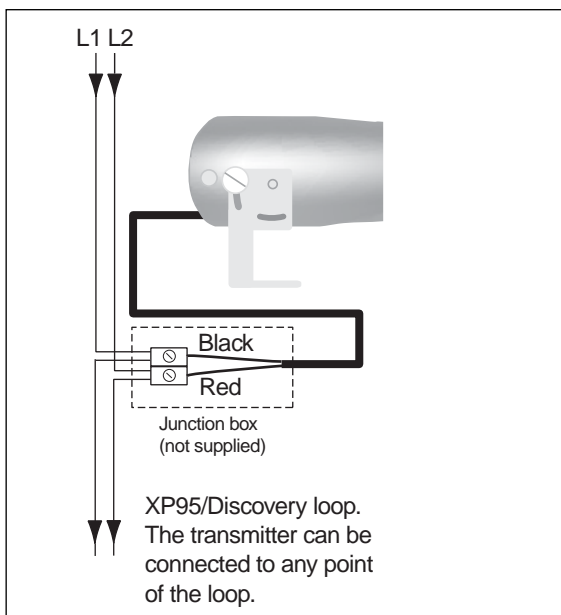

Fig 6a Connecting the transmitter to the loop
5. Install all cables and connect as shown in Figs 6a and 6b. (Transmitter and receiver are each supplied with 1m of cable and this should be correctly terminated with the system wiring).